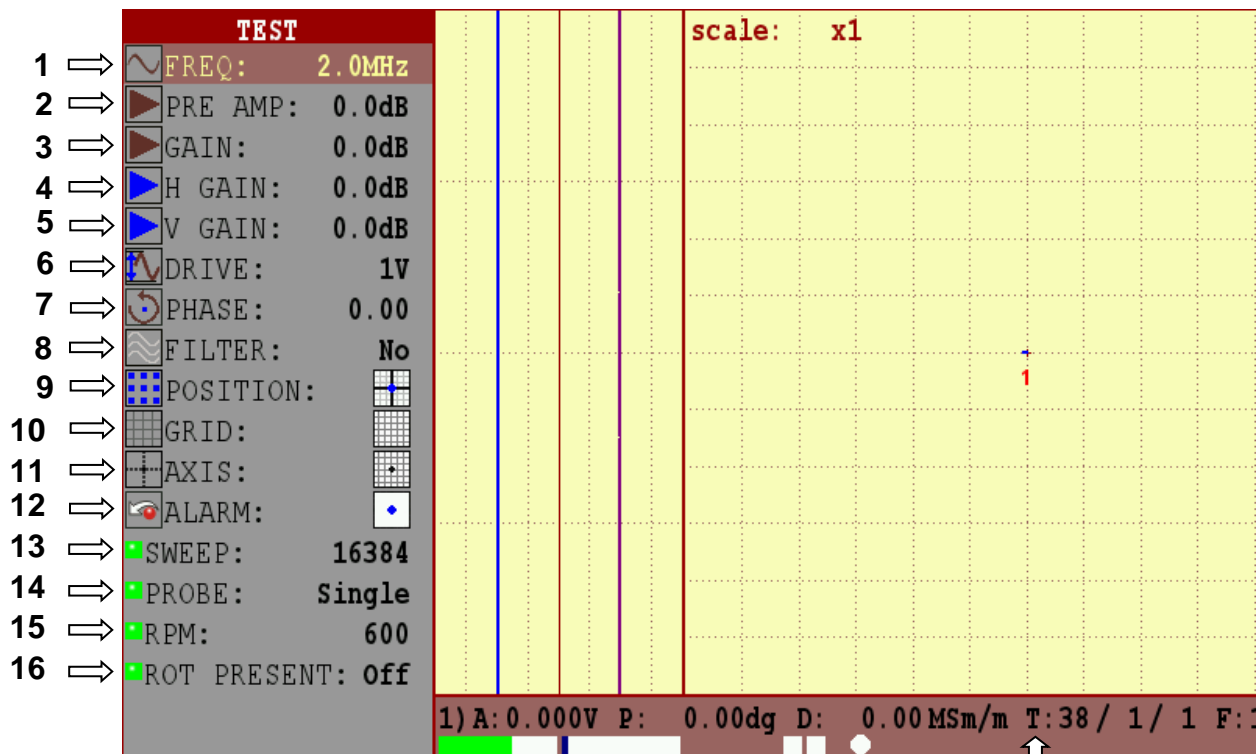

FIGURE 1 - Settings of «TEST» menu
3.2.2 Select parameter "PROBE"- "Single" type (pos. 14, FIGURE 1).
3.2.4 Set the ECP frequency " FREQ" (pos. 1, FIGURE 1) in a range specified in the registration certificate for the ECP.
3.2.5 Set the ECP drive " DRIVE" (pos. 6, FIGURE 1) not more than 2 V, if the object of testing has no paint coating. If the object of testing has heavy paint coating, then it is allowed to set the parameter of the ECP drive ( DRIVE) more than 2 V, but this increasing should not lead to the overshoot of the input circuit occupancy (over-occupancy).